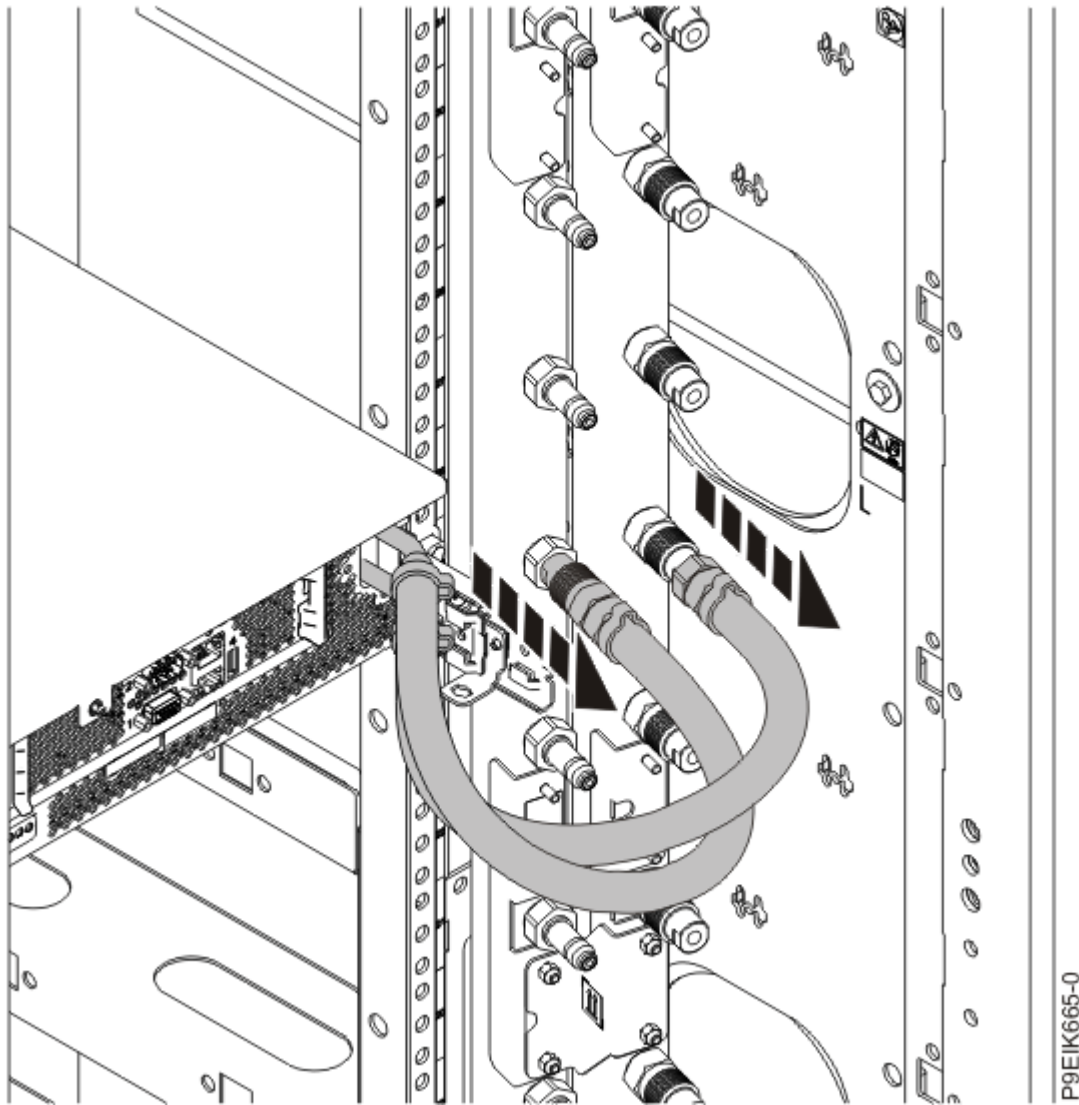

Figure 29. Disconnecting the water hoses
2. For a water-cooled system, label and disconnect the water hoses at the manifold. Pull the coupling toward you to disconnect the water hoses as shown in Figure 29 on page 42.